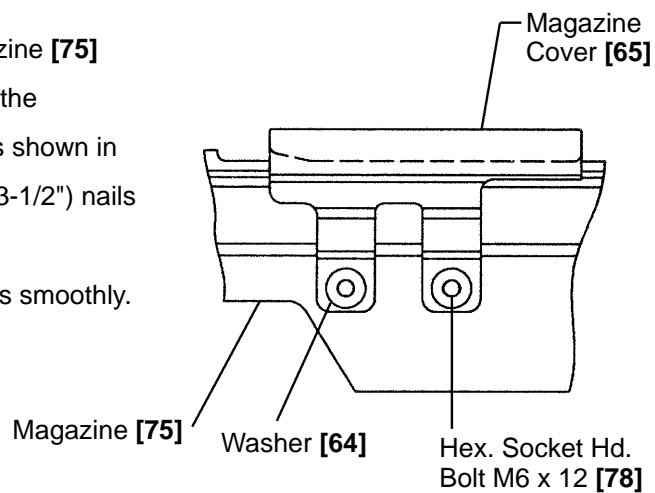

Fig. 14 Reassembly of the Magazine Cover
- Secure the Magazine Cover [65] to the Magazine [75] with the Hex. Socket Hd. Bolt M6 x 12 [78] at the specified tightening torque (see section 10) as shown in Fig. 14. Load the 3.8 mm x 90 mm (0.148" x 3-1/2") nails specified in Fig. 15 in the Magazine [75]. Check that the Nail Feeder [66] feeds the nails smoothly. Otherwise, reassemble the Magazine Cover.